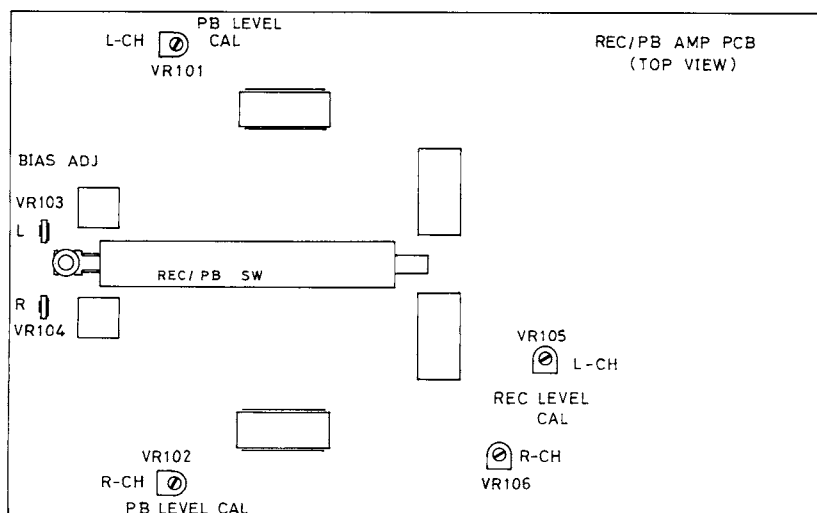

Fig. 2
Adjust potentiometer VR103 on the main p-c board (Fig. 2), by recording and playing back, until outputs for 10,000Hz and 400Hz signals reach the same level.
2. Play back test tape LCT-7001 (or equivalent), and adjust potentiometer VR101 (VR102 for R-ch) on the main p-c board (Fig. 2) so that the AC voltmeter reads 580mV.
4. If recording and playback levels differ from each other, repeat step 3 until the two levels become almost equal, by adjusting potentiometer VR105 (VR-106 for R-ch) on the main p-c board while recording (Fig. 2).